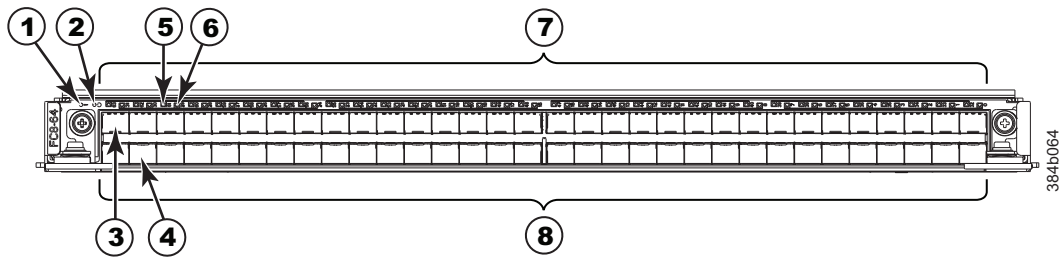

Figure 58. FC8-64 port blade
- Figure 58 on page 153 shows an FC8-64 port blade